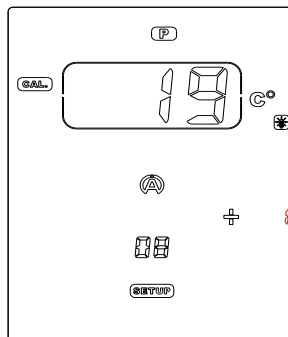

Figure 24
- 3) With the buttons  , adjust the temperature in the « FRAME » so that the displayed temperature corresponds to a temperature of reference (*figure 24*).